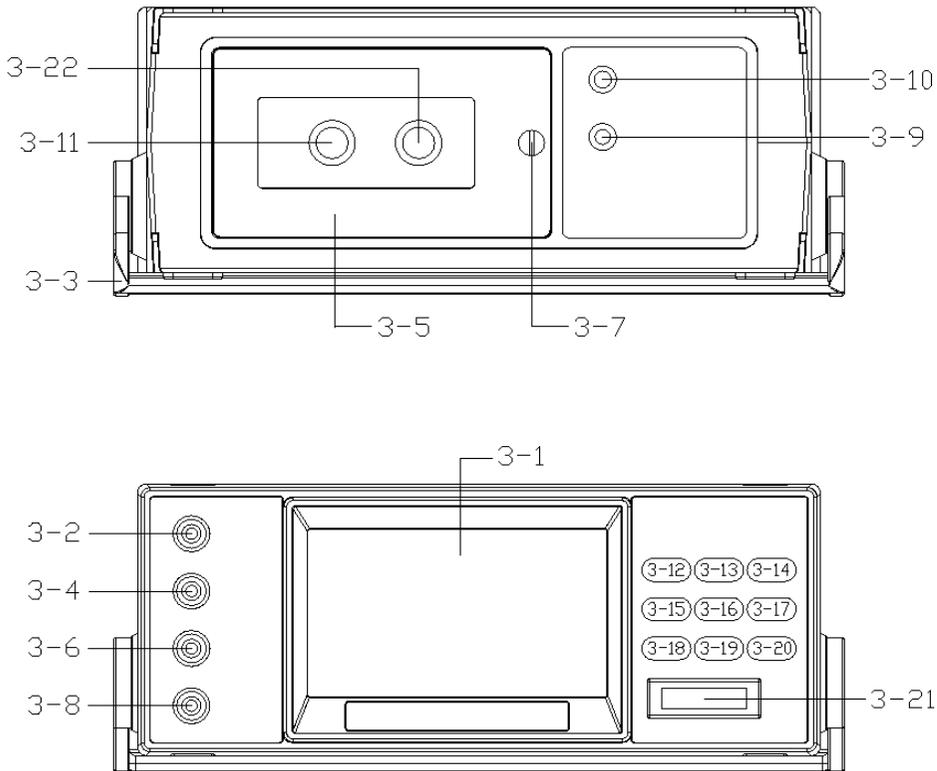

Fig. 1
- 1) : Connect BLACK test lead into " COM " terminal ( 3-4, Fig. 1 ).
- 2) : Connect RED test lead into " V " terminal ( 3-2, Fig. 1 ).
- 3) : Press the " Function Button " ( 3-12, Fig. 1 ) Select to the " DC mV " Function.
- 4) : Use the " AC/DC button " ( 3-18, Fig. 1 ) short press to select the " AC mV " or " DC mV " measurement.
- 3) : Press the " Function Button " ( 3-12, Fig. 1 ) Select to the " DC V " Function.
- 4) : Use the " AC/DC button " ( 3-18, Fig. 1 ) short press to select the " AC V " or " DC V " measurement.
- 6) : Under the operation of " auto range " mode, short press the " Range Button " ( 3-15, Fig.1 )select to the Manual Range ,Manual Range can select 6,60,600, 1000V. LCD will show the " MANU " marker, and Under the manual range operation, press and hold the " Range Button " (3-15, Fig.1) > 2 seconds, will return to auto range operation.
- 2) : Connect RED test lead into " 10A " terminal ( 3-8, Fig. 1 ).
- 3) : Press the " Function Button " ( 3-12, Fig. 1 ) Select to the " DC A " Function.
- 4) : Use the " AC/DC button " ( 3-18, Fig. 1 ) short press to select the " AC A " or " DC A " measurement.
- 6) : Under the operation of " auto range " mode, short press the " Range Button " ( 3-15, Fig. 1 ) select to the Manual Range ,Manual Range can select 6A,10A. LCD will show the " MANU " marker, and Under the manual range operation, press and hold the " Range Button " (3-15, Fig.1) > 2 seconds, will return to auto range operation.
- 2) : Connect RED test lead into " mA/uA " terminal ( 3-6, Fig. 1 ).
- 3) : Press the " Function Button " ( 3-12, Fig. 1 ) Select to the " DC mA " Function.
- 4) : Use the " AC/DC button " ( 3-18, Fig. 1 ) short press to select the " AC mA " or " DC mA " measurement.
- 6) : Under the operation of " auto range " mode, short press the " Range Button " ( 3-15, Fig. 1 ) select to the Manual Range, Manual Range can select 60mA, 600mA. LCD will show the " MANU " marker, and Under the manual range operation, press and hold the " Range Button " (3-15, Fig.1) > 2 seconds, will return to auto range operation.
- 3) : Press the " Function Button " ( 3-12, Fig. 1 ) Select to the " DC  $\mu$ A " Function.
- 4) : Use the " AC/DC button " ( 3-18, Fig. 1 ) short press to select the " AC  $\mu$ A " or " DC  $\mu$ A " measurement .
- 6) : Under the operation of " auto range " mode, short press the " Range Button " (3-15, Fig.1) select to the Manual Range ,Manual Range can select 600.0uA, 6000uA. LCD will show the " MANU " marker, and Under the manual range operation, press and hold the " Range Button " (3-15, Fig.1) > 2 seconds, will return to auto range operation.
- 2) : Connect RED test lead into " V/ $\Omega$ /Diode/Continuity " terminal ( 3-2, Fig. 1 ).
- 3) : Press the " Function Button " ( 3-12, Fig. 1 ) Select to the "  $\Omega$  " Function.
- 6) : Under the operation of " auto range " mode, short press the " Range Button " (3-15, Fig.1) select to the Manual Range ,Manual Range can select 600 $\Omega$ , 6K $\Omega$ , 60K $\Omega$ , 600K $\Omega$ , 6M $\Omega$ , 60M $\Omega$ . LCD will show the " MANU " marker, and Under the manual range operation, press and hold the " Range Button " (3-15, Fig.1) > 2 seconds, will return to auto range operation.
- 3) : Press the " Function Button " ( 3-12, Fig. 1 ) Select to the " Diode " Function.
- 3) : Press the " Function Button " ( 3-12, Fig. 1 ) Select to the " Continuity " Function.
- 2) : Connect RED test lead into " V/ $\Omega$  " terminal ( 3-2, Fig. 1 ).
- 3) : Press the " Function Button " ( 3-12, Fig. 1 ) Select to the " Hz " Function.
- 5) : Under the operation of " auto range " mode, short press the " Range Button " (3-15, Fig.1) select to the Manual Range ,Manual Range can select 60Hz, 600Hz,6KHz,60KHz,600KHz,6MHz,60MHz. LCD will show the " MANU " marker, and Under the manual range operation, press and hold the " Range Button "(3-15, Fig.1) > 2 seconds, will return to auto range operation.
- 3) : Press the " Function Button " ( 3-12, Fig. 1 ) Select to the " Duty " Function.
During the measurement, press the " Hold Button " ( 3-19, Fig. 1 ) once will hold the measured value & the LCD will display a " HOLD " symbol. Press the " Hold Button " once again will release the data hold function.